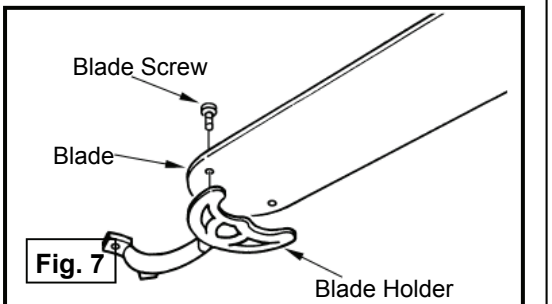

Fig. 7
STEP 6 (Fig 7)
- a) Attach blades on to the blade holders as shown in figure 7.